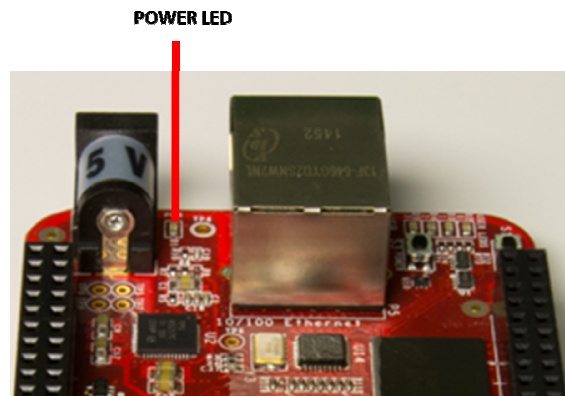

Figure 4 Board Power LED
3. The board will power on and the power LED will be on as shown in **Figure 4** below.